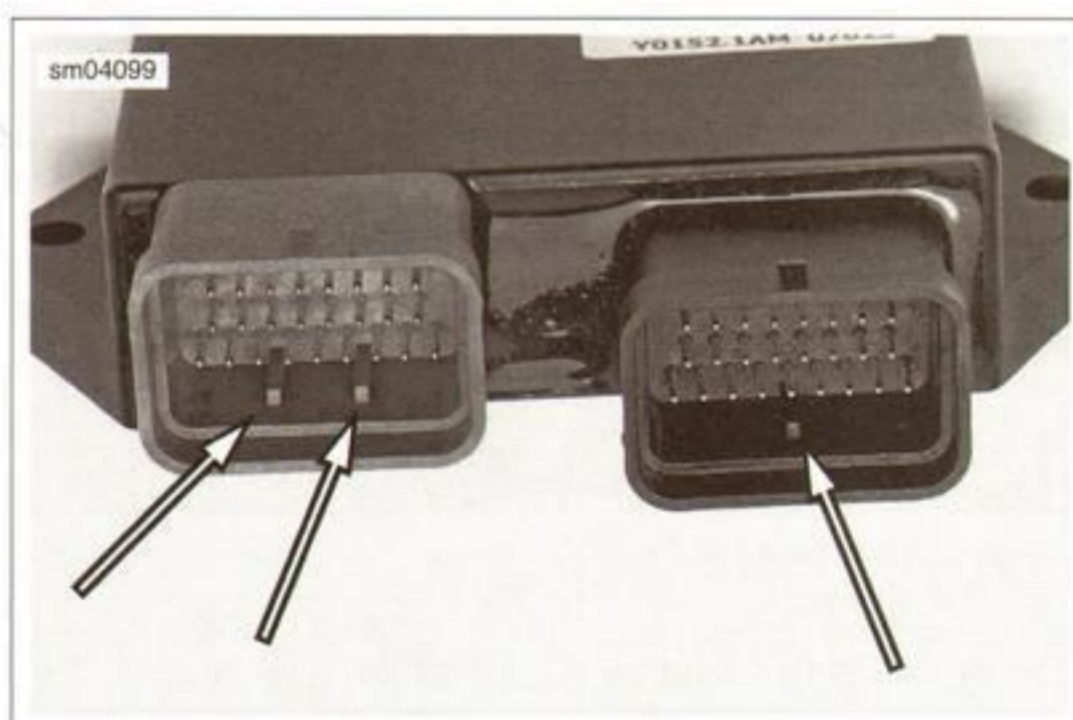

Figure 7-9. Connector Alignment Rails
6. See Figure 7-9. To replace, align the tunnels in the socket housings with the rails in the pin housings of the ECM.